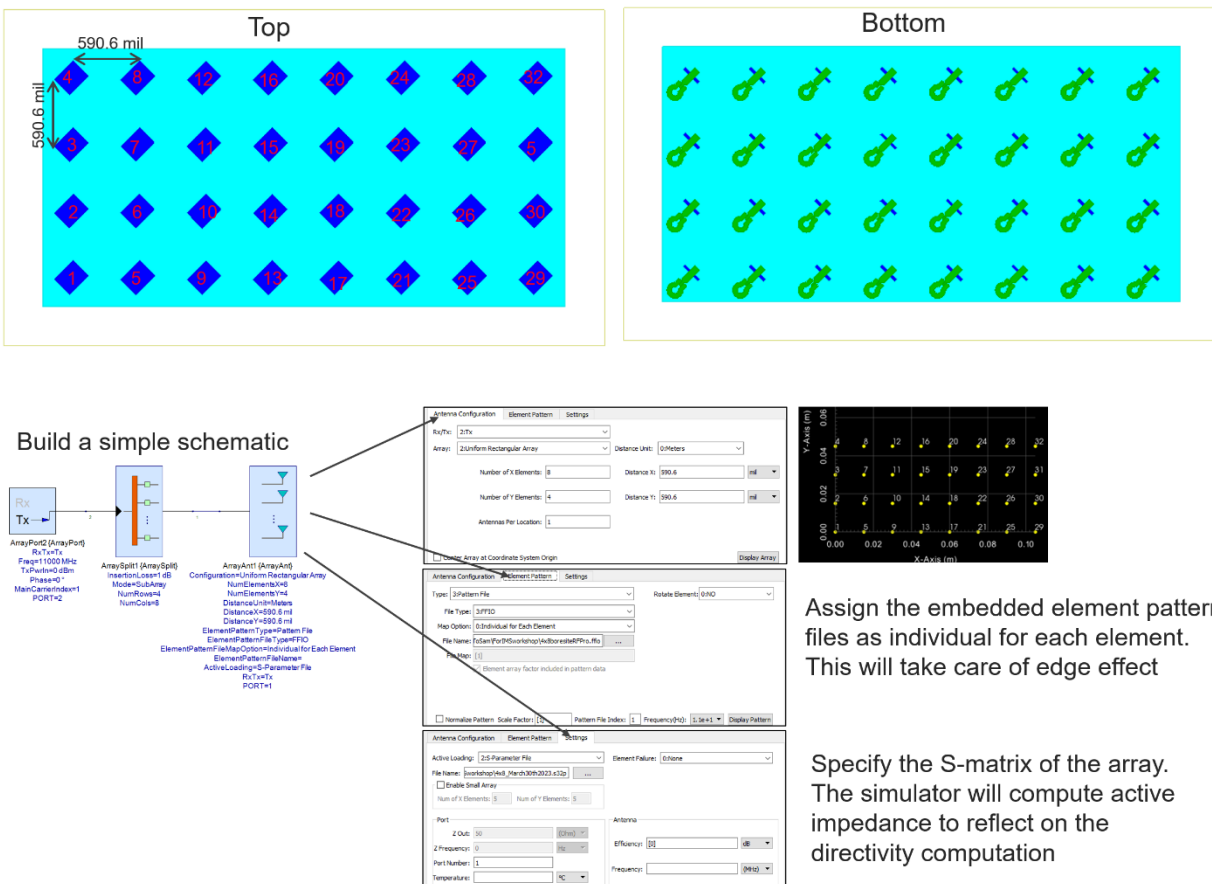

Figure 4. Array element locations, directivity patterns, and S-parameters compose a behavioral model of an array
“We saw we could move from board layouts to co-simulation easily in RFPro and PathWave System Design, giving us a recipe for array scaling,” shares Ringwood. Layouts for several hardware enablement platform boards were in Cadence Allegro. A layout of the 32 antenna array elements in the basic 4x8 configuration moved from Allegro to Keysight PathWave Advanced Design System (ADS), then into Keysight PathWave RFPro for 3D electromagnetic (EM) simulation. Three pieces of information flow to PathWave System Design from that EM simulation, illustrated in Figure 4: